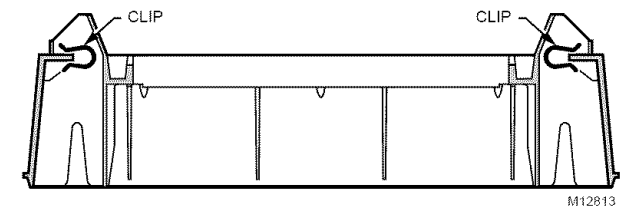

Fig. 4. Position securing clips.
6. Position the securing clips as shown in Fig. 4.